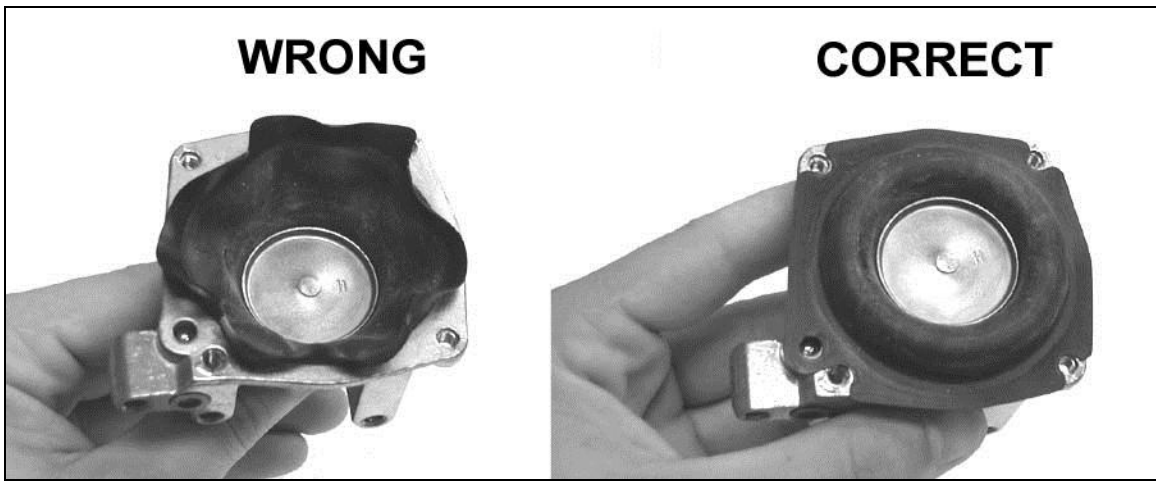

Figure 17
**TIP:** To make reassembling the diaphragm easier, extend the diaphragm into the housing and form the diaphragm into a “mushroom” shape (Figure 17). Then position the diaphragm over the bolt holes and vacuum port. Hold the diaphragm in that position with your fingers while inserting the spring, cover, and bolts to avoid disturbing the position of the diaphragm.